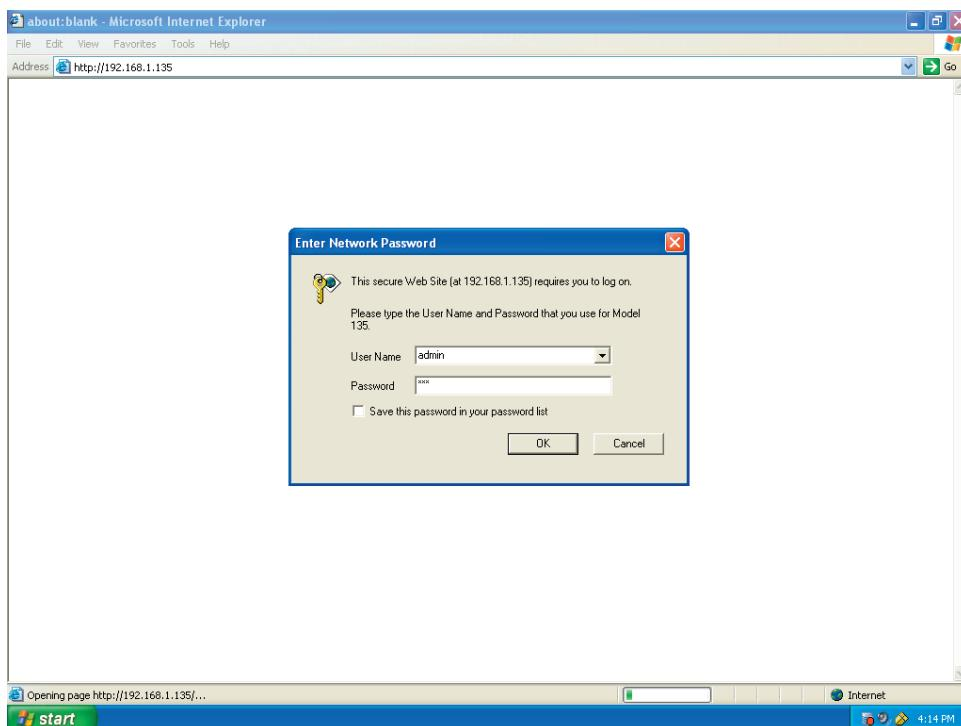
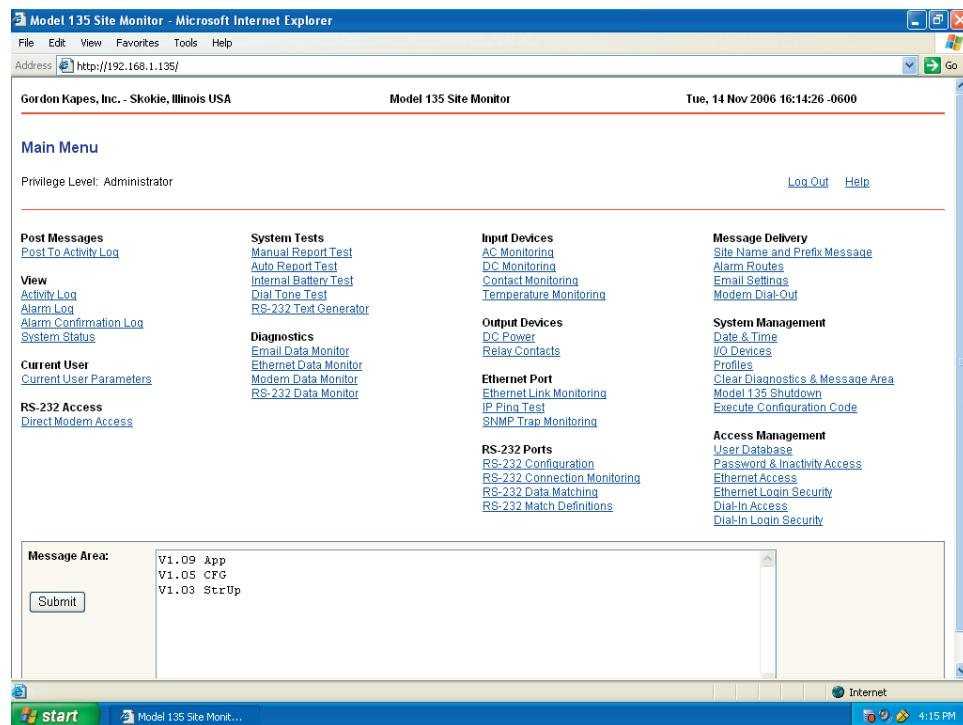
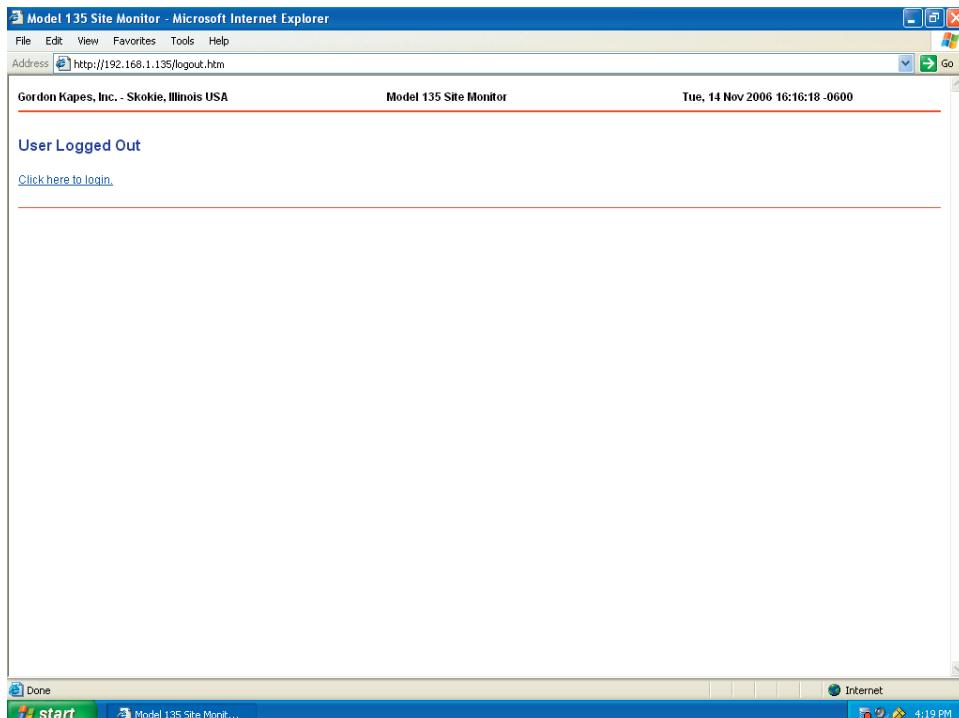

Figure 2-10. Model 135 Enter Name and Password Screen
Figure 2-11. Model 135 Main Menu Screen
Figure 2-12. Model 135 User Logged Out Screen
Step 6: Turn computer back on. Upon completion of the computer boot up, open your browser and enter the following default URL address **http://192.168.1.135** to access the Model 135 Site Monitor. An Enter Network Password screen should appear requesting a User Name and Password (Figure 2-10).
Step 7: Enter the default User Name of **admin** and the default Password of **135** (Figure 2-10). Select/click OK. A successful login will bring you to the Main Menu of the Model 135 Site Monitor Application Program (Figure 2-11). This Main Menu will allow you to navigate throughout the Model 135 Site Monitor menu system allowing you to configure the operating parameters of the Model 135 Site Monitor.
Step 8: Select Log Out at any time to disconnect from the Model 135 Site Monitor (Figure 2-11 and Figure 2-12).